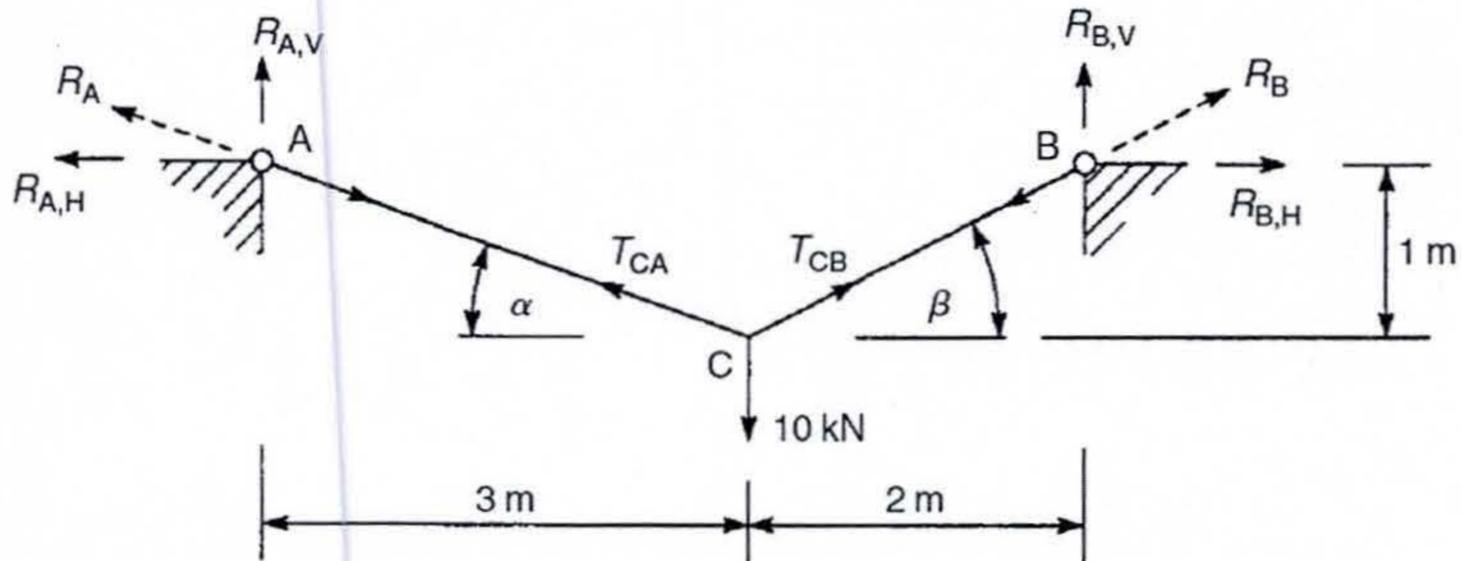

Fig .9
b) The cable shown in Fig. 9 is pinned to supports at A and B, and carries a concentrated load of 10 kN at a point C.